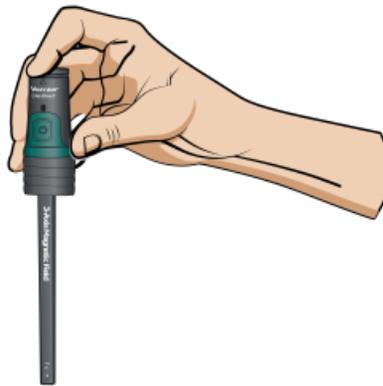

Figure 2
- b. Hold the sensor vertically over the area where you will be collecting data as it will be during data collection (see Figure 2).